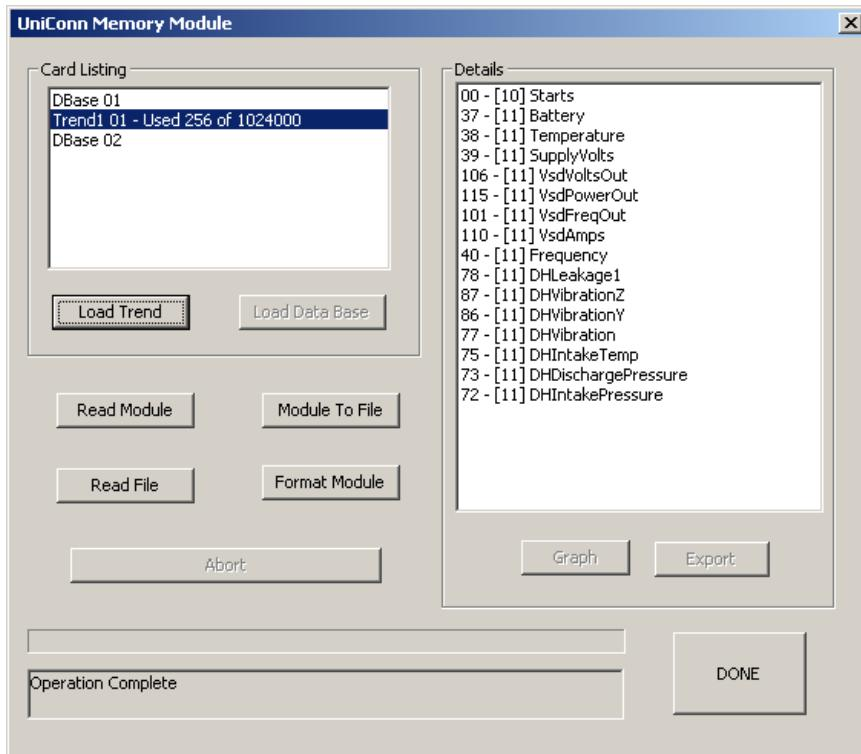

Figure 11-17: Selected Trend
1. Select a trend from the list, as shown in Figure 11-17.